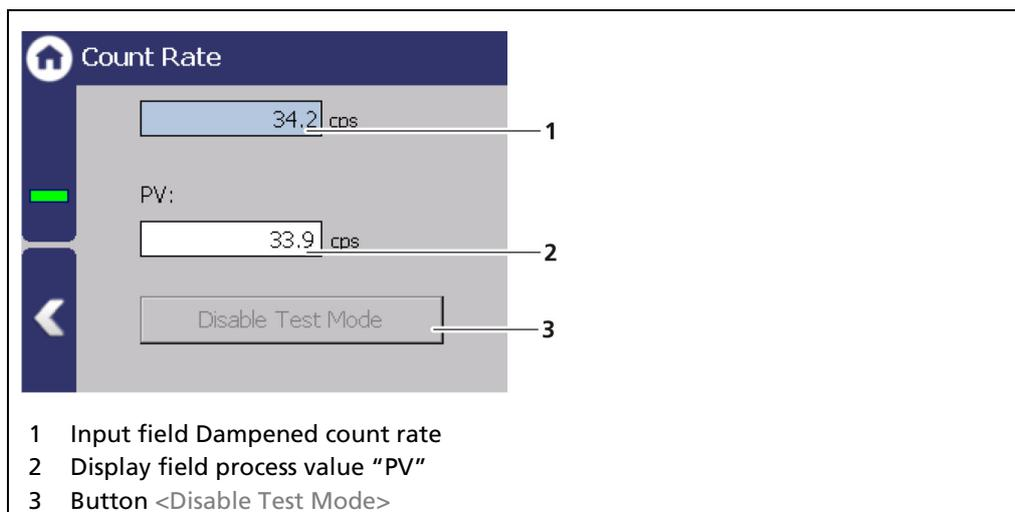

Fig. 129 Simulation Count Rate
1. Click on the input field (Fig. 129, item 1) and enter count rate for the simulation.
- ▶ The test is performed, and the process value (Fig. 129, item 2) is displayed.
3. Click on the <Disable Test Mode> button (Fig. 129, item 3) to stop the simulation.